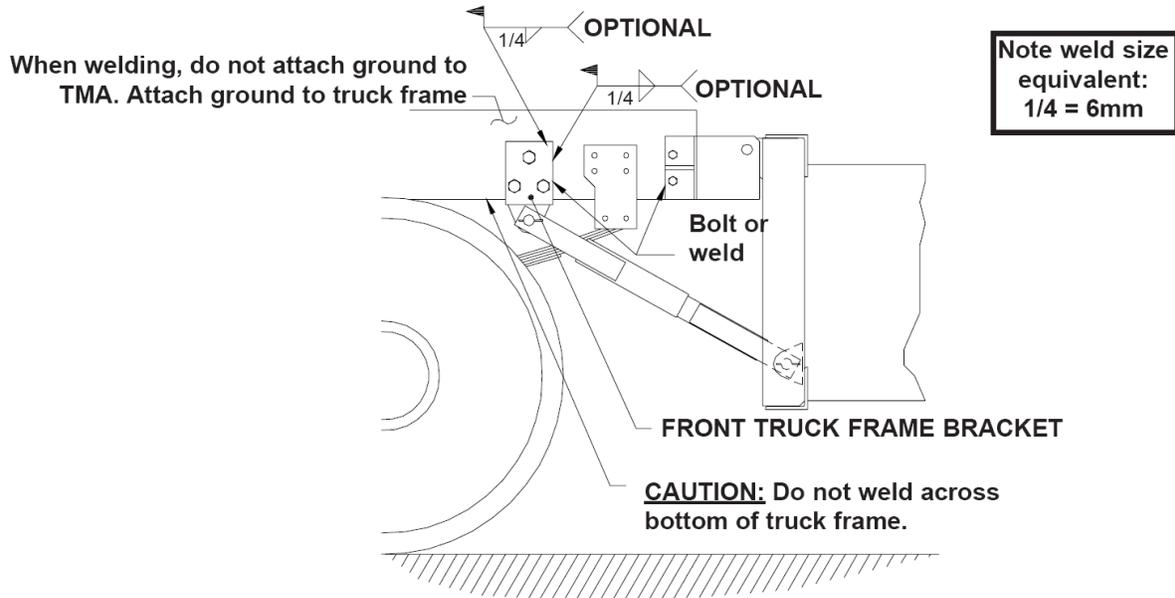

Figure 8
11. As shown in Figure 8, swing the Standard Struts up and position the Front Brackets against the side of the truck frame. This part may be either bolted or welded to the truck frame. If bolting is used, all six (6) bolts must be attached into drilled holes (three on each side) and the bolts torqued to 270 N-m [200 ft-lb]. (Before attempting the bolting method, make sure there is enough clearance between the side of the truck frame and the outboard leaf springs.) If welding is used, it should be done by a qualified welder and should be completed as shown on the detail drawings. Do NOT weld across the bottom of the truck frame. If there is interference between the Front Truck Frame Bracket and some existing part on the truck then the part can be assembled as shown in Figure 9.